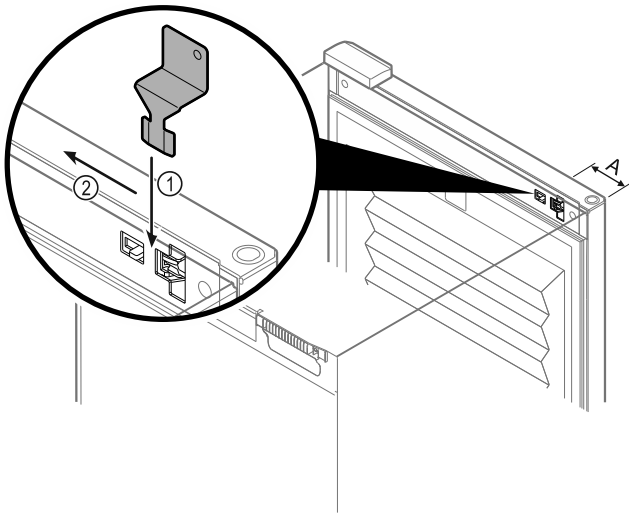

Fig. 94
- ▶ Insert the emergency release key in the specified position Fig. 94 (A) \approx 100 mm.
- ▶ Insert the emergency release key Fig. 94 (1) between the door and the body of the appliance from above to the end stop.
- ▶ Pull the emergency release key towards the hinge. Fig. 94 (2)